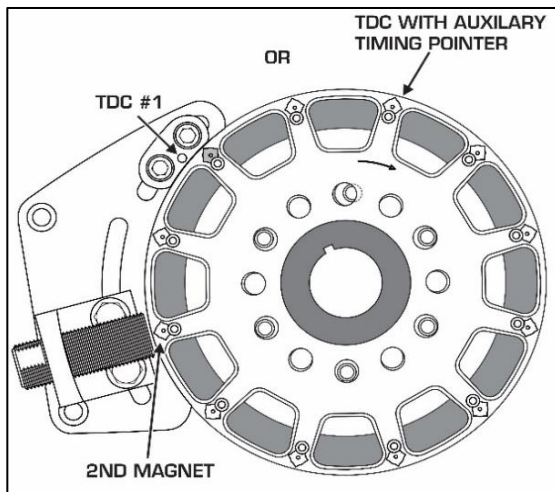

Figure 3: (Example) Aligning 2nd tooth, Passenger Side Mounting
4. Rotate the crank wheel until the 2nd-tooth (Magnet, black insert) after the red insert lines up with the approximate centerline of the sensor. **Figure 3** show an example. The wheel was designed such that the bolt-holes on the wheel should line up to those of the balancer under these conditions. This should provide an ignition reference angle of 60° BTDC #1, assuming TDC was properly identified.